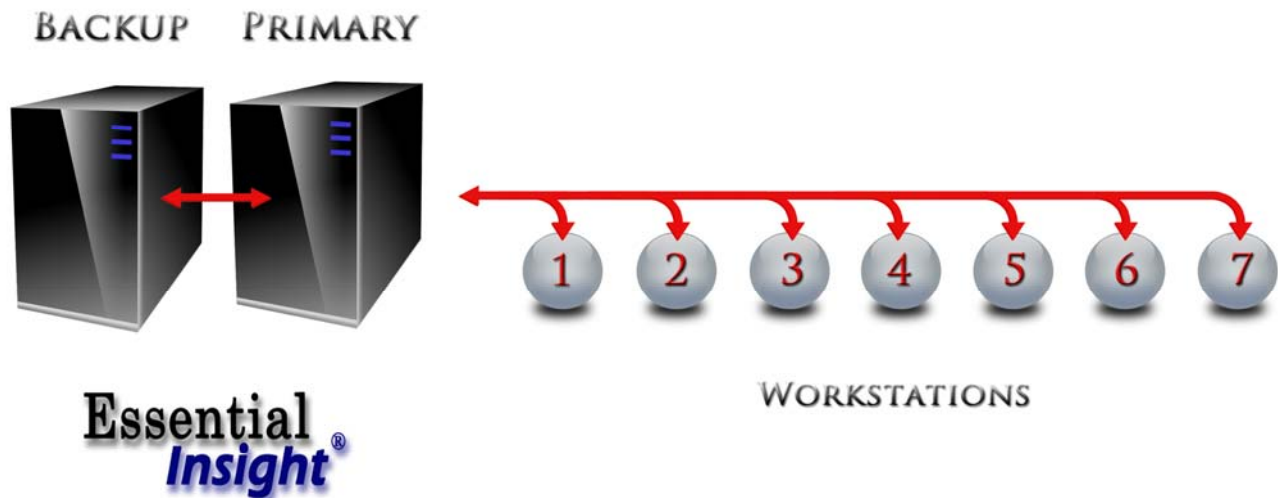

Figure 5
For our example, let's assume we choose to utilize our initial workstation or work cell computer configuration for a production line of seven (7) workstations or work cells as shown in Figure 5. In order to assure ourselves we have appropriate computer resources for the Engine and Portal's to perform at peak efficiency, we can take advantage of an Essential Insight Server feature by configuring one computer to be the 'primary' computer and replicate the hardware and software configuration on other computer called the 'backup'. This configuration allows the Engine to run on the primary computer and the Portal to run on the backup. In this configuration, every database transaction that occurs on the primary also occurs on the backup, thereby providing a copy of all the data on the backup. By separating the functionality of the system in this manner, we can be assured that the Engine and the Portal each have the resources available without competing with each other for computer resources. Importantly, a benefit of this configuration is should the data and operation of the production line be construed as 'mission critical' (think Just-In-Time), a backup machine with ALL the data is available in the unlikely event of a primary computer failure, and can be used to continue production while the primary is unavailable. Conversely, in the event of a backup computer failure, the primary machine will continue to log the data until such time the backup computer is again available and the data logged in the interim is uploaded to the backup to maintain coherent data sets on both machines.